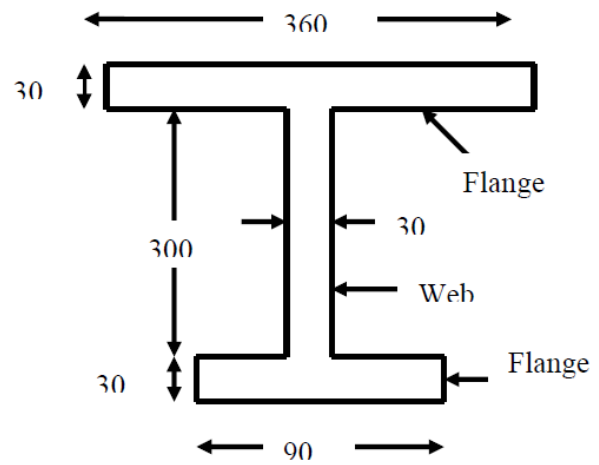

Fig. 9.4
- 9.4 Calculate the value of the shear stress τ_{xy} at the point where the web joins the flanges and at the neutral axis, if the shear force at the section is 120 kN (Fig 9.4).